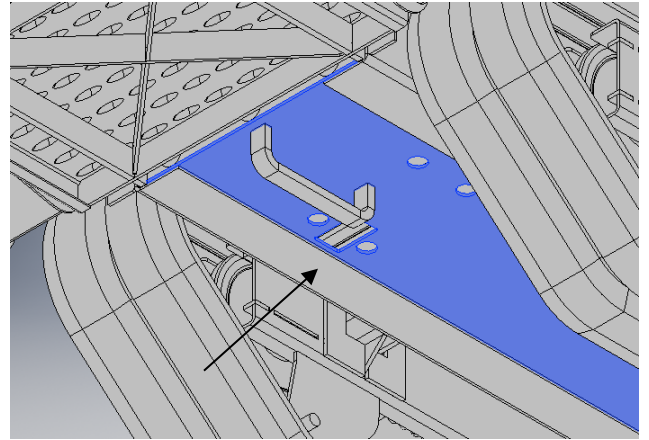

Fig 18
4. Replace the bung and push the oil drain hose back up through the hole in the frame. **(Fig 18)**